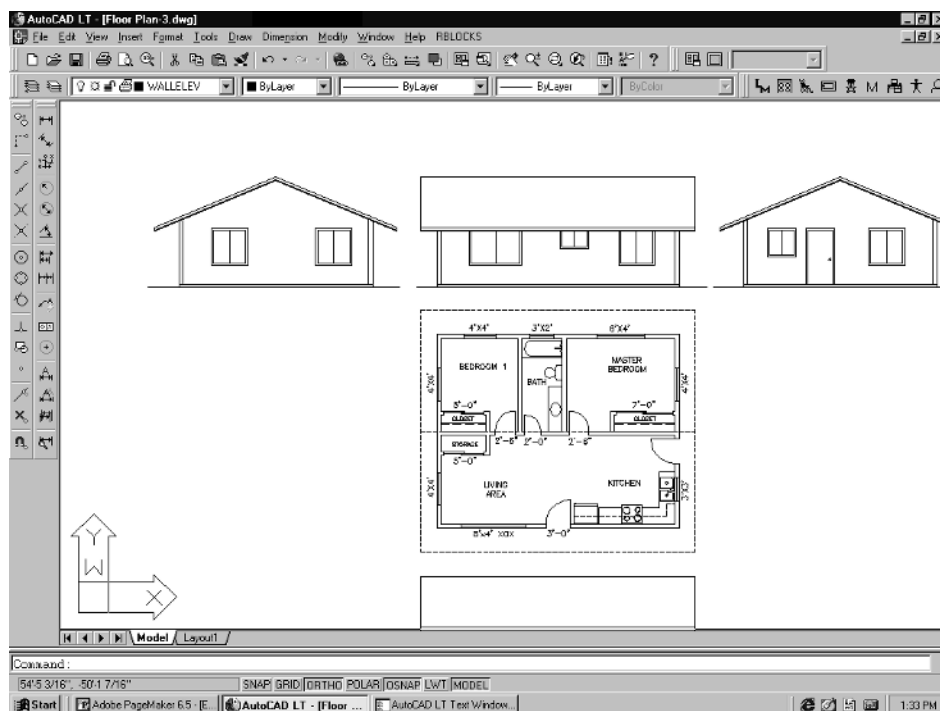

Figure 4-46
1. Use the Mirror command from the Modify pull-down menu. When prompted to *Select objects*, window the entire back elevation, then **Enter**. At the *Specify first point of mirror line* prompt, pick the midpoint of the roof ridge. When prompted to *Specify second point of mirror line*, pull the cursor straight down and pick. Type **Y** and **Enter** at the *Delete source objects?* [Yes/No] <N> prompt. This should mirror your back elevation around, deleting the original, as shown in Figure 4-46.